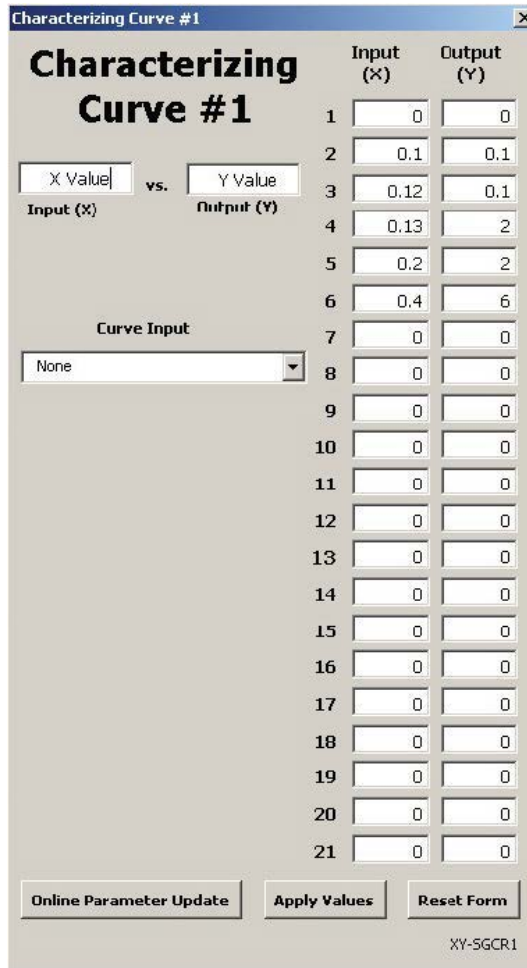

Figure B.2. Characterizing Curve screen.
- The **Characterizing Curve** (Figure B.2) is used to configure more closely the output from the parameter control above. It should be used only by an experienced operator under direction of Thermo Scientific service personnel.